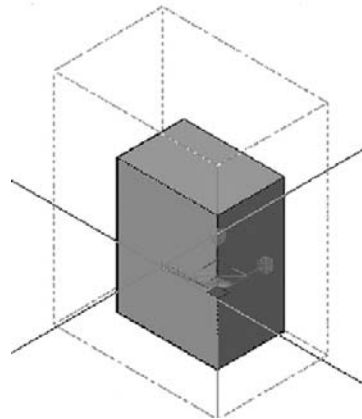

FIGURE 23.19
- Step 4.** Pick the XY plane. You can then move the mouse to scale the object or type in a value, as seen in Figure 23.19.